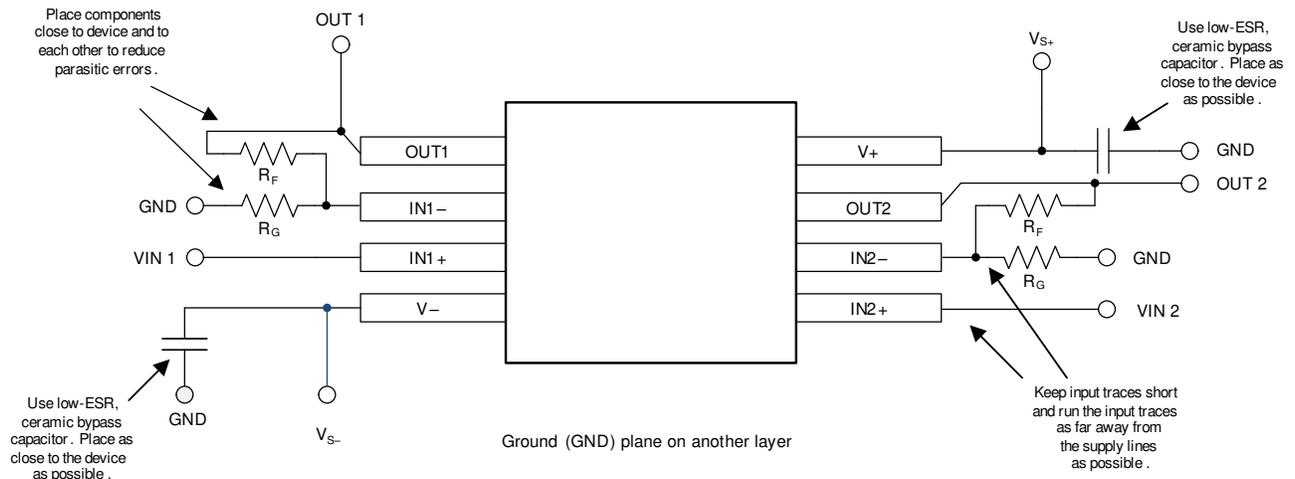

图 68. PCB Layout Example
- Use bypass capacitors to reduce the noise coupled from the power supply. Connect low ESR, ceramic, bypass capacitors between the power-supply pins (V+ and V-) and the ground plane. Place the bypass capacitors as close to the device as possible with the 100-nF capacitor closest to the device, as indicated in Figure 68. For single-supply applications, bypass capacitors on the V- pin are not required.
- Place the external components as close to the device as possible. As illustrated in Figure 68, keeping RF, CF, and RG close to the inverting input minimizes parasitic capacitance.